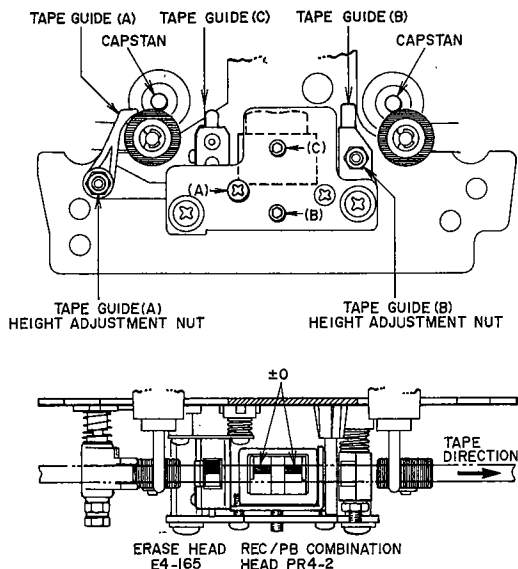

Fig. 11
(Refer to Figs. 11, 12)
- 2) At playback mode, using the erase head guide (C) shown in Fig. 11 as standard for height, adjust tape guide (A) and tape guide (B) height with tape guide height adjustment nuts so that the tape runs smoothly and does not catch on the tape guides.
(Refer to Fig. 11)
- 2) As shown in Fig. 11 adjust head height with screws (A), (B) and (C) until the upper edge of the tape is the same height as the upper edge of the left channel REC/PB Combination head core.